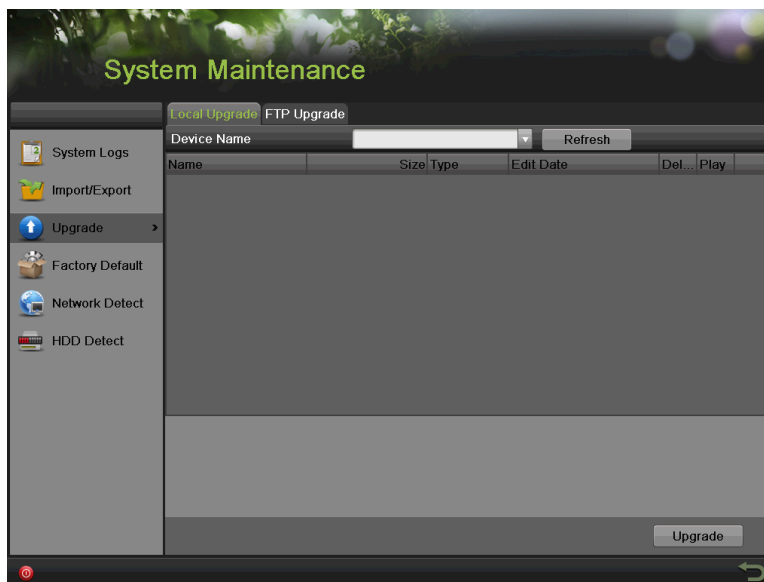

Figure 170 Local Upgrade Menu
2. Select the Local Upgrade tab, as shown in Figure 170.